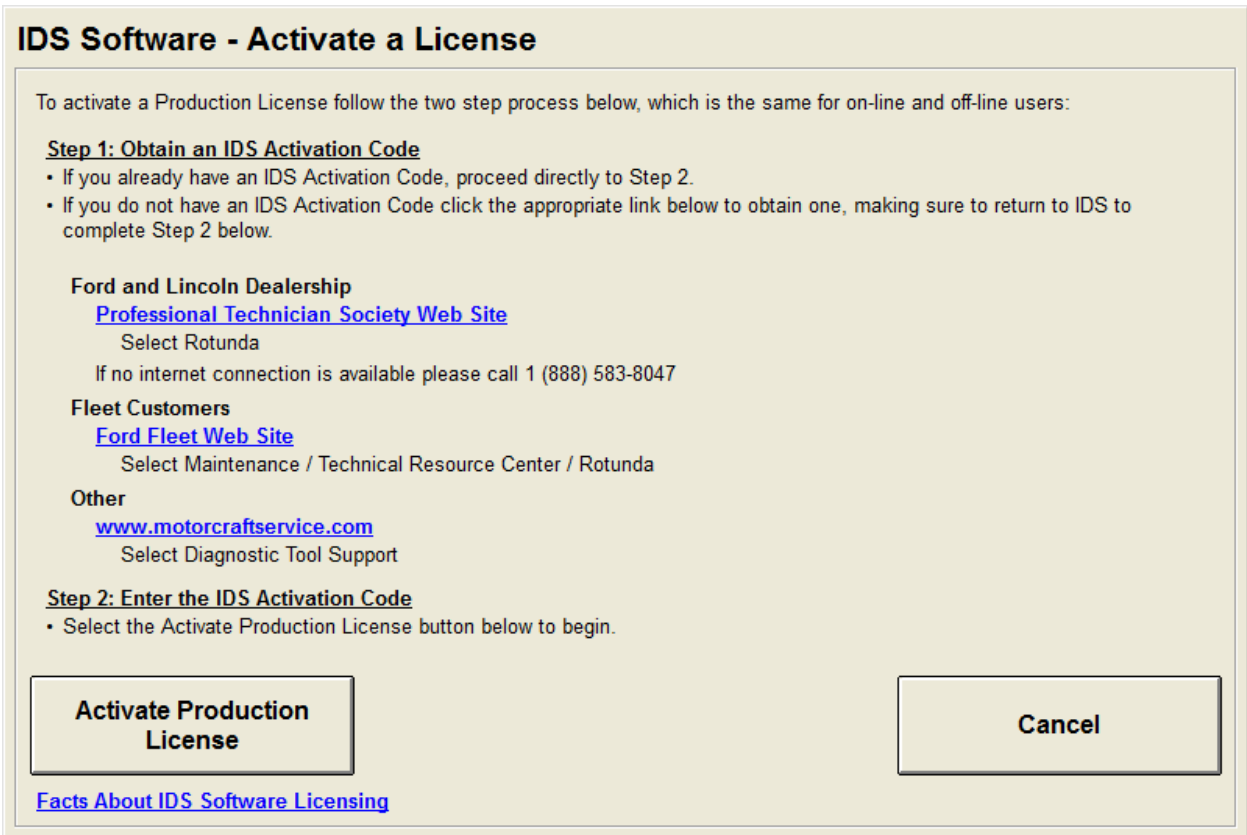

FIGURE 1: ACTIVATE LICENSE POP-UP WINDOW
- A unique license Activation Code is provided with each software subscription. The license activation code is entered in **IDS** to activate the software shown in **Figure 1**.
The **IDS** Software License activation process consists of two steps as outlined in the **IDS** popup screen in **Figure 1**.